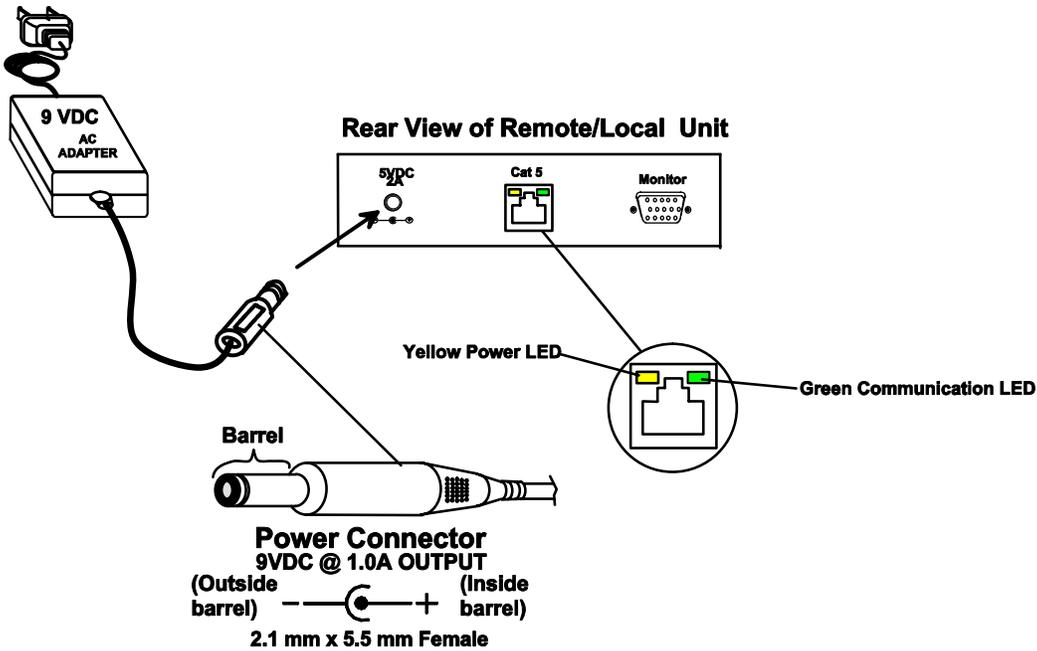

Figure 4- Connect the AC adapters
2. Connect each AC adapter power connector to the 9VDC ports on the Remote and Local Units. Make sure the power connectors go into each port all the way. Plug each AC adapter into a power outlet. The yellow LED on the RJ45 connector of both the Remote and Local Units should illuminate, indicating that a proper power connection has been made to them. (See Fig. 4.)
Note: The green LED on each RJ45 connector will blink anytime data traffic is passing between the Local and Remote Units, indicating proper CAT5 cable connection and communication. (See Fig. 4)